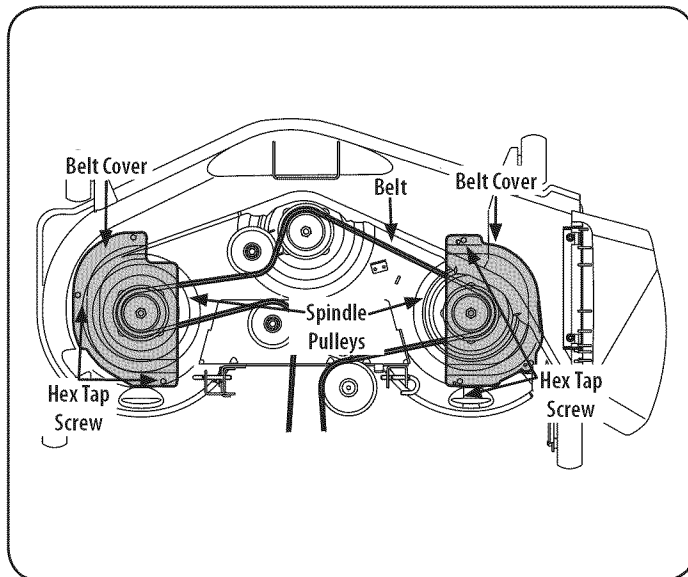

Figure 43
2. Use a $1\frac{5}{16}$ " wrench to hold the hex nut on top of the spindle assembly when loosening the hex nut securing the blade. A block of wood may be placed between the deck housing and the cutting edge of the blade to help in breaking loose the hex nut securing the blade. See Figure 43.